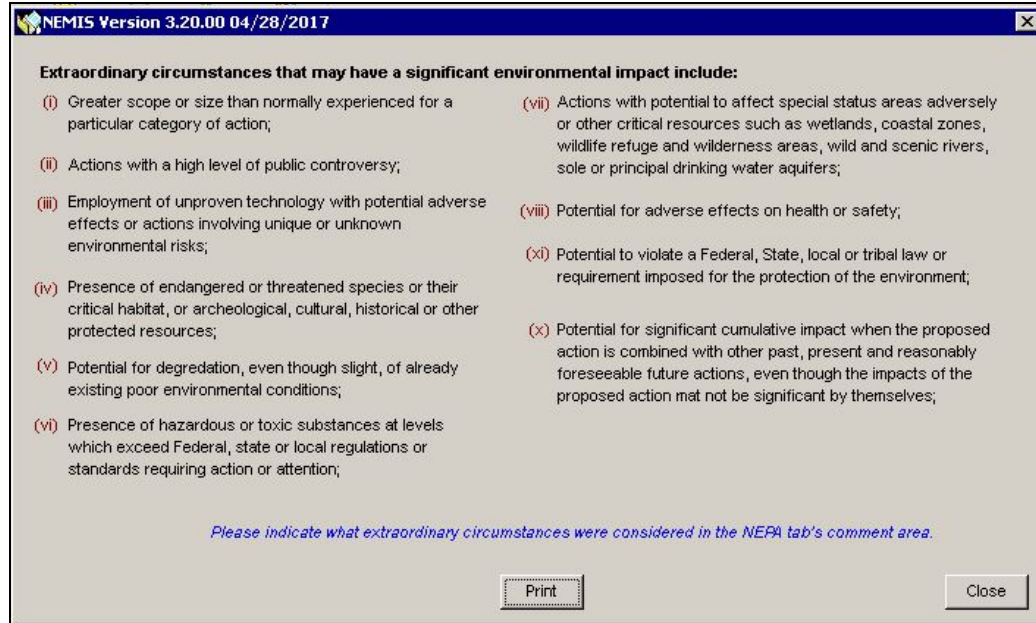

Figure 7-46: FEMA Status - Catex Completed: Extraordinary Circumstances Reference
- b. Click the EXTRAORDINARY CIRCUMSTANCE REF button. The description of ten extraordinary circumstances is displayed (Figure 7-46). Note the instruction to use the **NEPA Process** tab's Comment area.